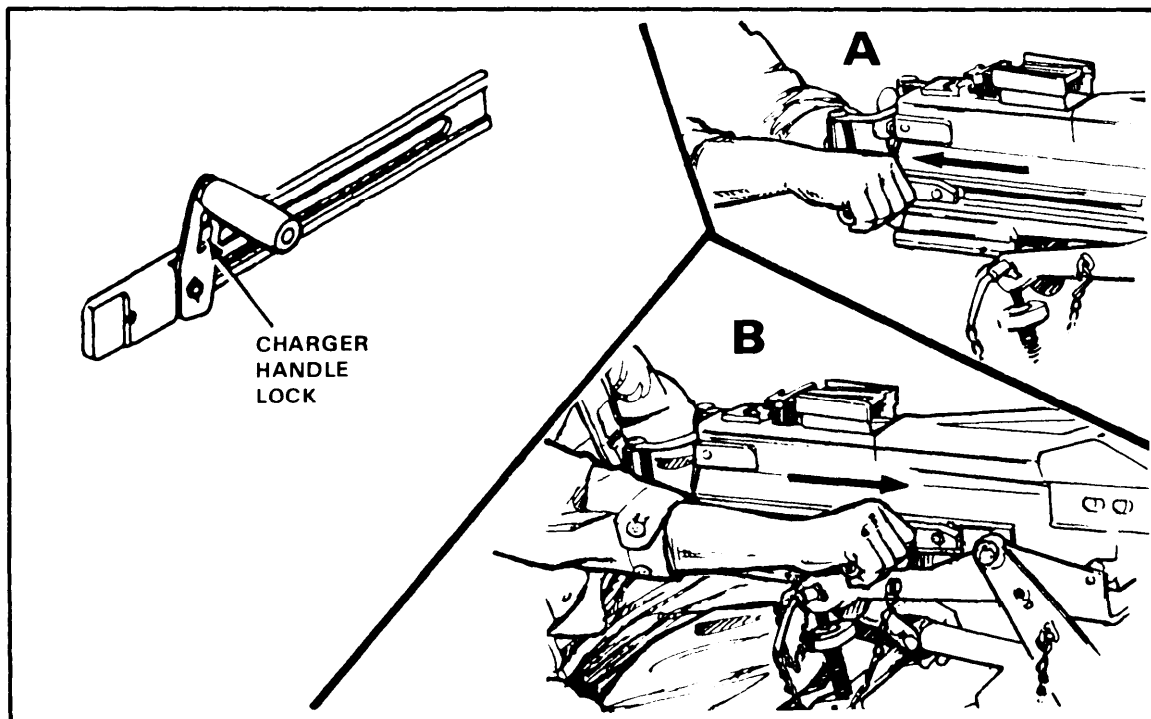

Figure 2-24. Charging the weapon.
(3) Grasp the charger handles with the palms down (Figure 2-24). Press in on the charger handle locks. Rotate the handles down and pull them sharply to the rear (A). After locking the bolt to the rear, return the charger handles forward to their original upright position (B).